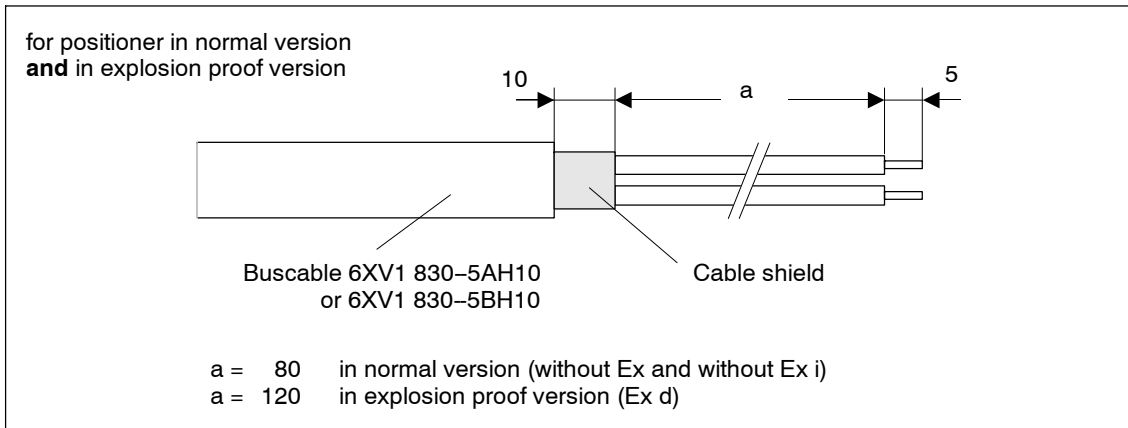

Figure 32 Preparation of bus cable
1. Isolate the bus cable as shown in figure 32, page 64.
2. To open the positioner, the cover catch (12) must be undone and the screw cover unscrewed.